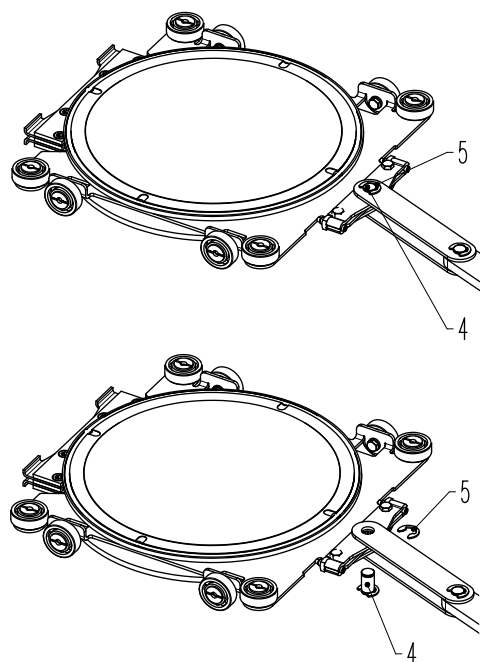

Figure 7-3
7. Remove locking ring (5) according to «Figure 7-3» on page 17.
8. Withdraw bolt (4) by pulling it downwards according to «Figure 7-3» on page 17.
11. Mount bolt (4) according to «Figure 7-3» on page 17.
12. Mount locking ring (5) according to «Figure 7-3» on page 17.